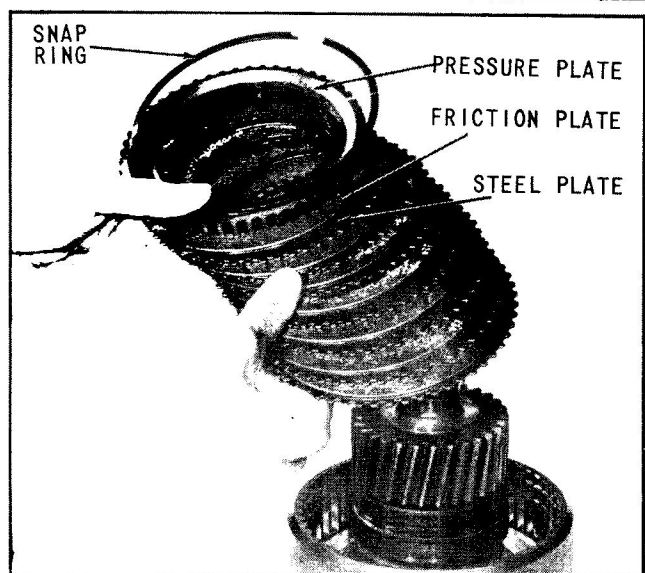

Fig. 38 Install Clutch Plates
13. Starting with a steel outer clutch plate and ending with a clutch inner plate and alternating, install 7 outer and 7 inner clutch plates, then install clutch pressure plate and snap ring, (Fig. 38).